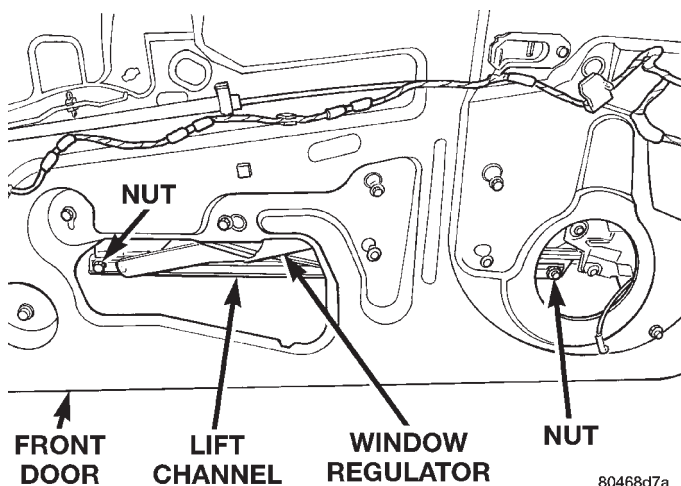
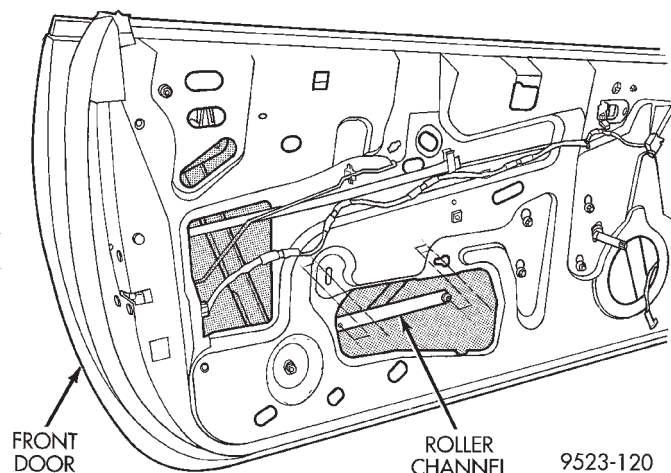
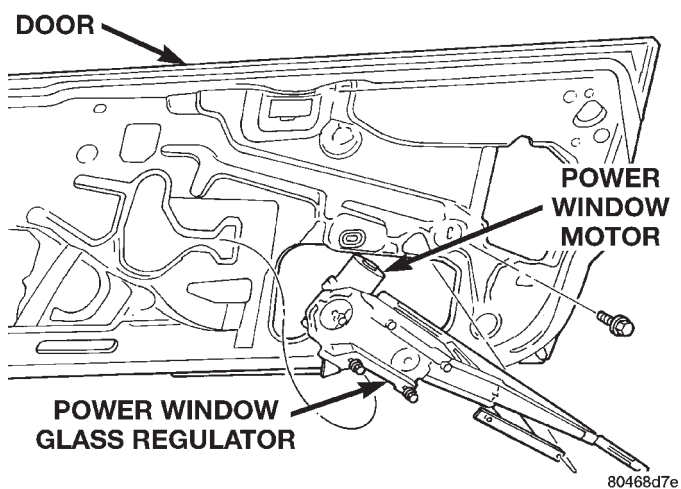

Fig. 17 Regulator Lift Channel
Fig. 18 Roller Channel
Fig. 19 Power Window Regulator
- (1) Remove door trim panel and water shield.
- (2) Disconnect wire connector to power window motor.
- (3) Remove nuts holding regulator lift channel to door glass (Fig. 17).
- (4) Secure door glass in upward position.
- (5) Mark position of rear bolt of roller channel to inner door panel to aid in installation.
- (6) Remove bolt holding rear of roller channel to door panel.
- (7) Loosen bolt holding front of roller channel to door panel.
- (8) Separate roller channel from door panel (Fig. 18).
- (9) Loosen bolts holding window regulator to inner door panel reinforcement.
- (10) Separate bolt heads from key-hole slots in inner door panel.
- (11) Remove window regulator through large hole in inner door panel (Fig. 19).
- (12) Remove power window motor from regulator. Refer to Group 8S, Power Windows, for motor procedure.